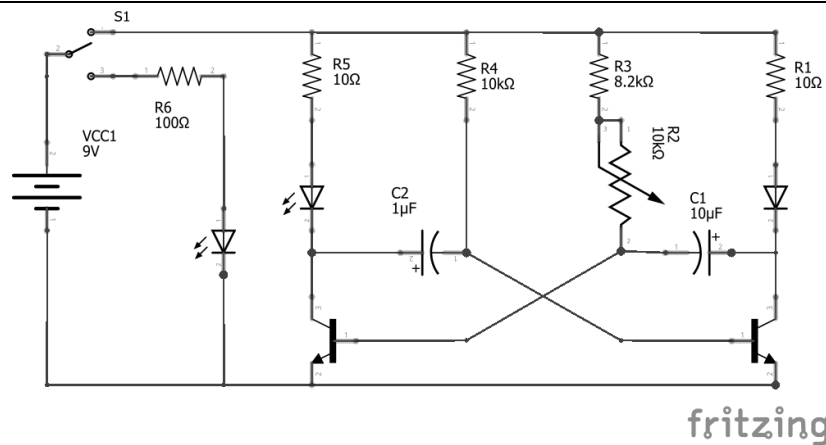

Figure 2 Circuit Diagram of Astable Multivibrator
This is a breadboard schematic of the astable multivibrator circuit. Please note that the configuration of the components may differ for different transistors and this diagram may be inaccurate. For clarification please refer to **Figure 2 Circuit Diagram of Astable Multivibrator** and section **11 Appendix B – Transistor Data Sheet**
If neither LED turns on there are many things that could be wrong with the circuit. Carefully check that you have connected the circuit according to **Figure 2 Circuit Diagram of Astable Multivibrator**. It is possible that your breadboard will have a different arrangement of sockets to the schematic diagram, so please verify the connections are as shown in **Figure 2**.
- **Check all connections against circuit diagram** – One by one, ensure that the components are connected to the breadboard as shown in **Figure 2 Circuit Diagram of Astable Multivibrator**.
- Research the datasheet for your specific transistor online. See **section 11 Appendix B – Transistor Data Sheet**. Once you are sure which leg is which ensure that the circuit is connected correctly according to **Figure 2 Circuit Diagram of Astable Multivibrator** (note this may be different to **Figure 3 Breadboard Schematic of Astable Multivibrator**).